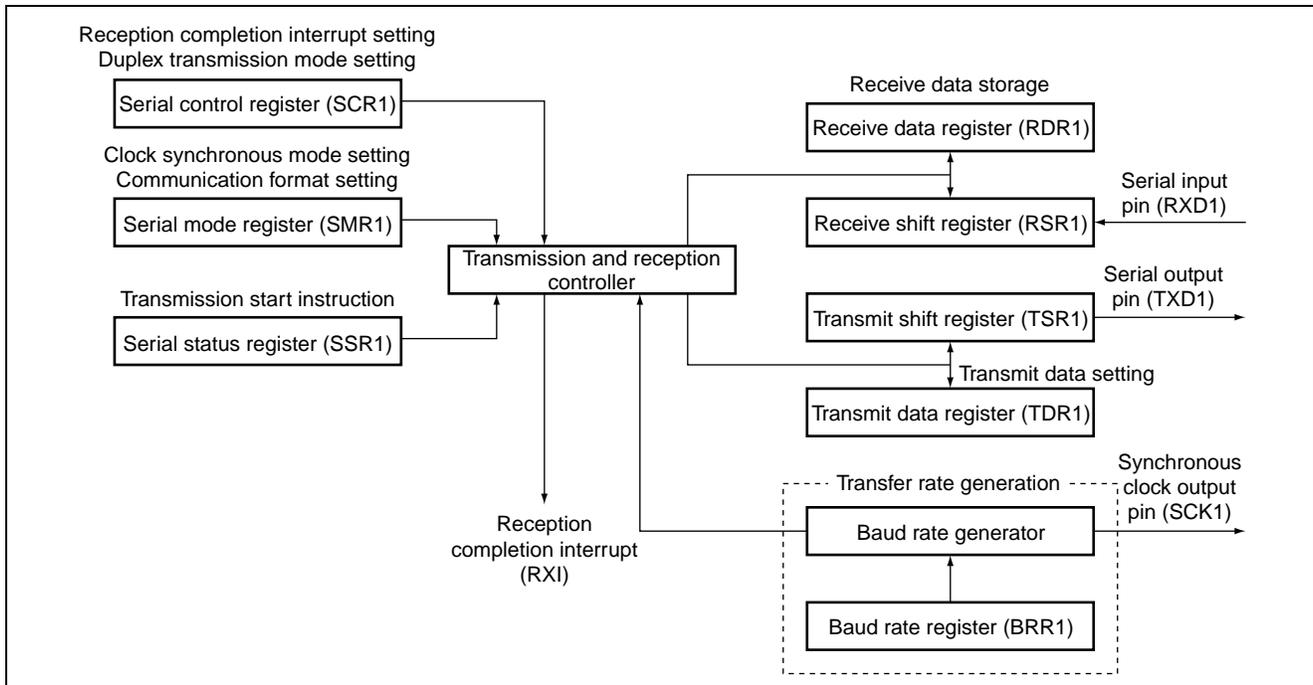

Figure 2 SCI Block Diagram
A. The block diagram of SCI to be used by the sample task is shown in figure 2. This sample task uses the following functions of SCI to perform transmission and reception simultaneously.